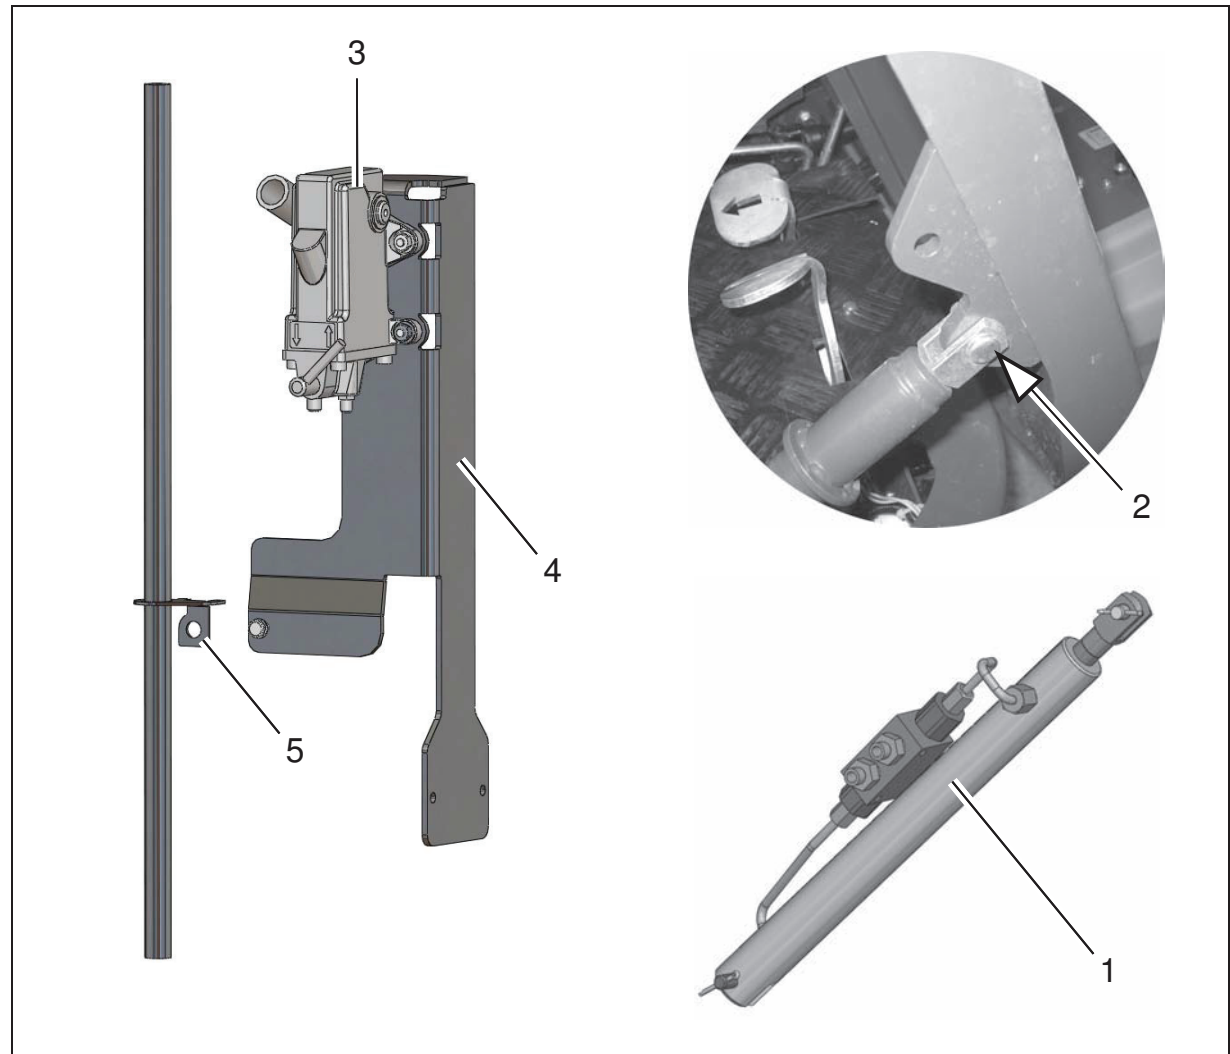

Fig. 5
1. Install the hydraulic cylinder (Fig. 5/1) on the left-hand side instead of the gas spring. Fix the piston rod eyelet in the second hole (Fig. 5/2).
2. Assemble the hand pump (Fig. 5/3) on the console (Fig. 5/4) using M8x25 oval head hexagon socket screws.
3. Screw the console (Fig. 5/4) to the chassis using the M8x25 screws.
4. Install the pump lever holder (Fig. 5/5) on the chassis.